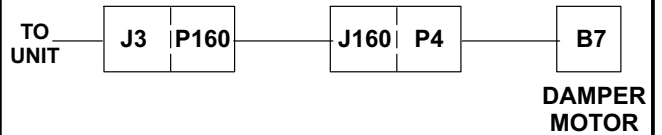

FIGURE 5
- 8- Units NOT equipped with an A55 Unit Controller - Connect the kit jumper harness plug P160 to unit jack J3 and jumper jack J160 to the damper motor plug P4. See figure 5.